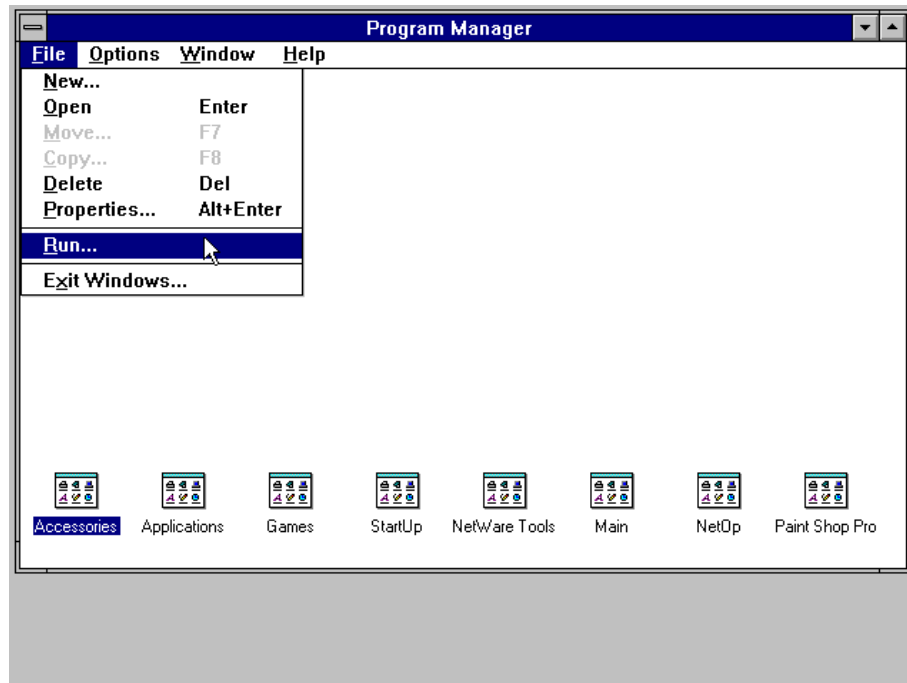

Figure 49 – Starting RUN dialog box
2. Select File, then the **Run...** option in PROGRAM MANAGER. See Figure 49.